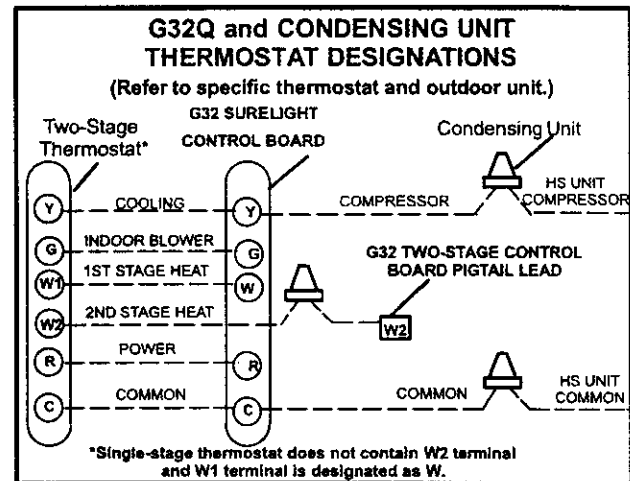
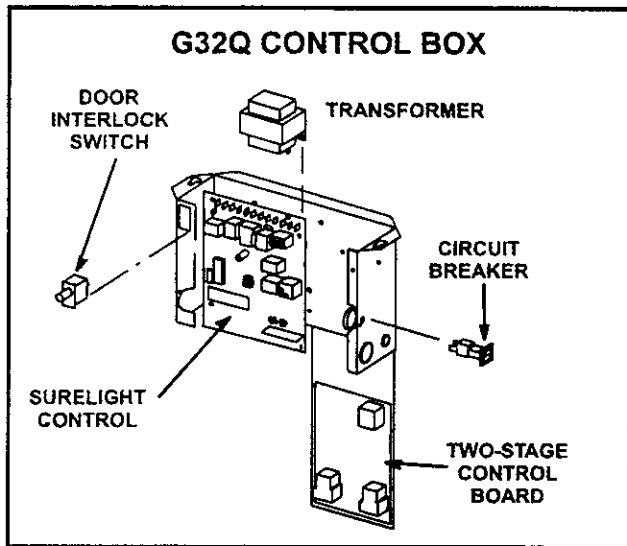
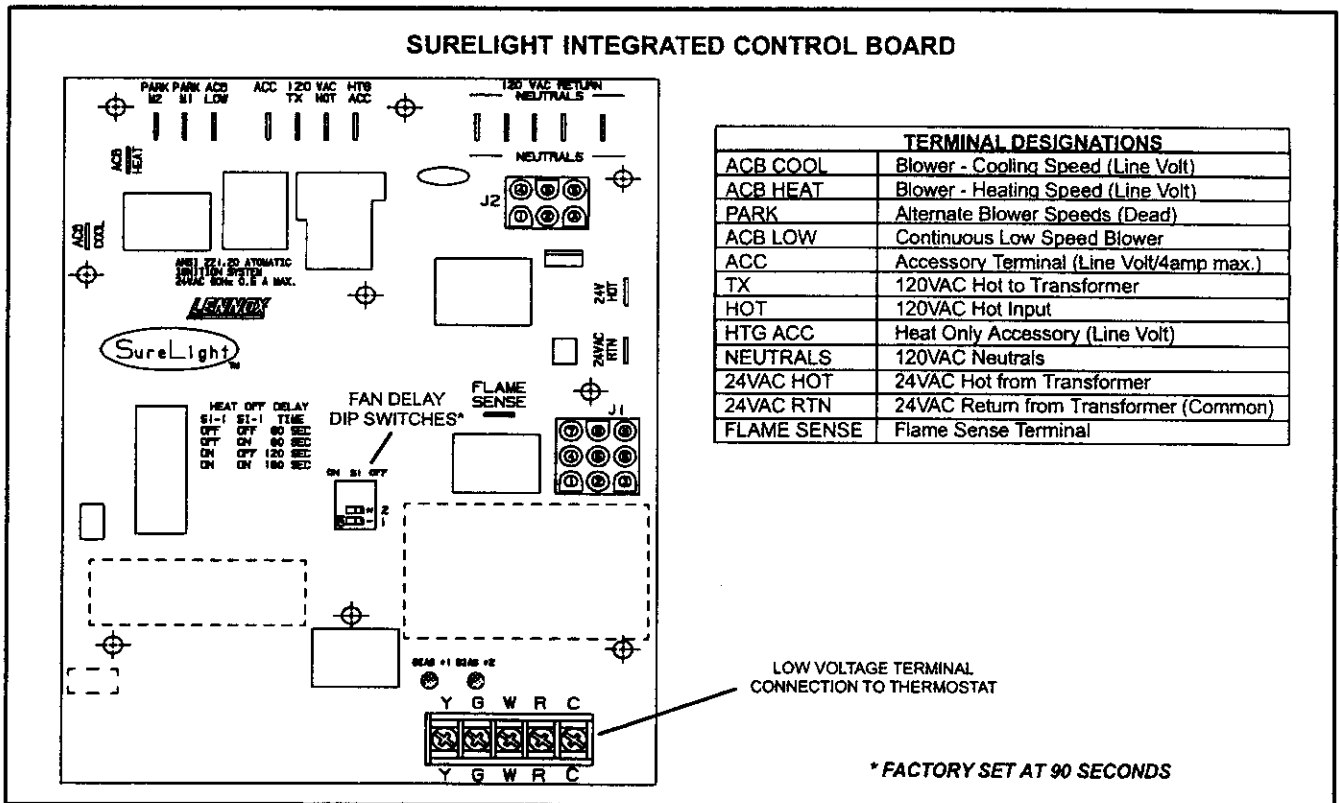

FIGURE 28
FIGURE 29
FIGURE 30
Figure 28 shows thermostat designations for identification purposes. Refer to figure 29 for control box arrangement, figure 30 for a detail of the Surelight™ integrated control, figure 32 for point-to-point field wiring and figure 33 for schematic wiring diagram and troubleshooting.
- Install room thermostat according to instructions provided with thermostat. See figure 28 for thermostat designations. If furnace is being used with heat pump refer to FM21 installation instruction.